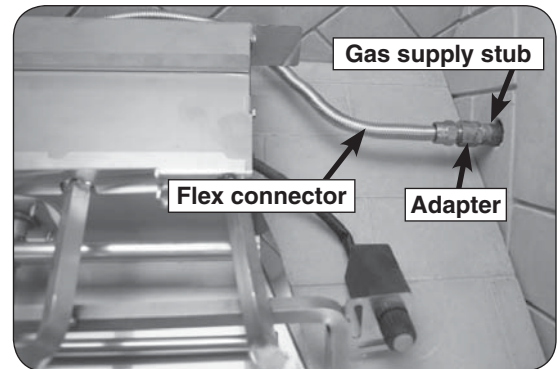

Fig. 14-1 Connect gas supply
2. Locate the gas-supply stub inside the fireplace and remove the cap, if attached (reference Fig. 14-1).
4. **Be sure gas to the fireplace is off.** Remove the adapter connected to the flex connector (pre-installed on the burner system). Attach the adapter to the gas-supply stub using a pipe compound resistant to all gasses. Tighten securely. Then attach the open end of the flex connector to the adapter. Tighten securely (see Fig. 14-1).